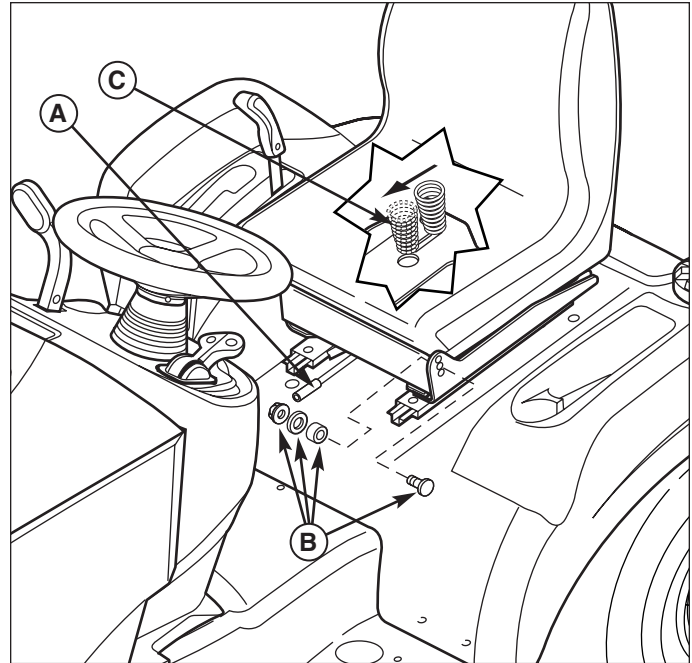

Figure 28. Seat Adjustment
The pitch of the seat can be adjusted to one of three positions. To adjust, remove the carriage bolts, spacers, washers, and nuts (B, Figure 28) from the hinge and reinstall them in the desired holes.
The seat can also be adjusted forward and back. Move the lever (A, Figure 28), position the seat as desired, and release the lever to lock the seat into position.
The seat springs (C, Figure 28) can be adjusted to provide a softer or firmer ride. Tilt the seat forward and slide the spring assembly (C) forward for a softer ride, and back for a firmer ride.